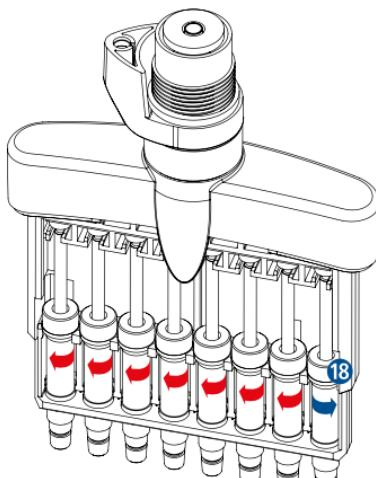

Fig.11
- The piston unit **18** is released from the piston frame by turning it with the Allen key (Fig. 11).